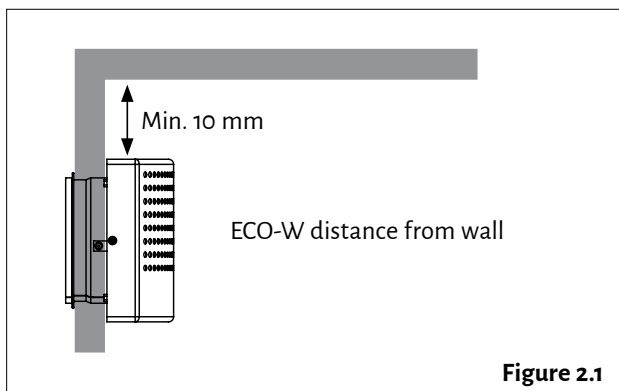

Figure 2.1
2. The minimum distance of the terminal device from the ceiling is 100 mm (see Figure 2.1). Install the terminal device at a minimum height of 1.8 m. Ensure that children cannot get their hands on the device.
3. Detach the grille (2) from the body. Remove the two fastening screws (3) and pull the grille off the body (1).
4. Insert the bottom section duct connector into the inlet air duct, and attach the body to the wall with screws (4) (2 pcs, max \varnothing 5 mm).